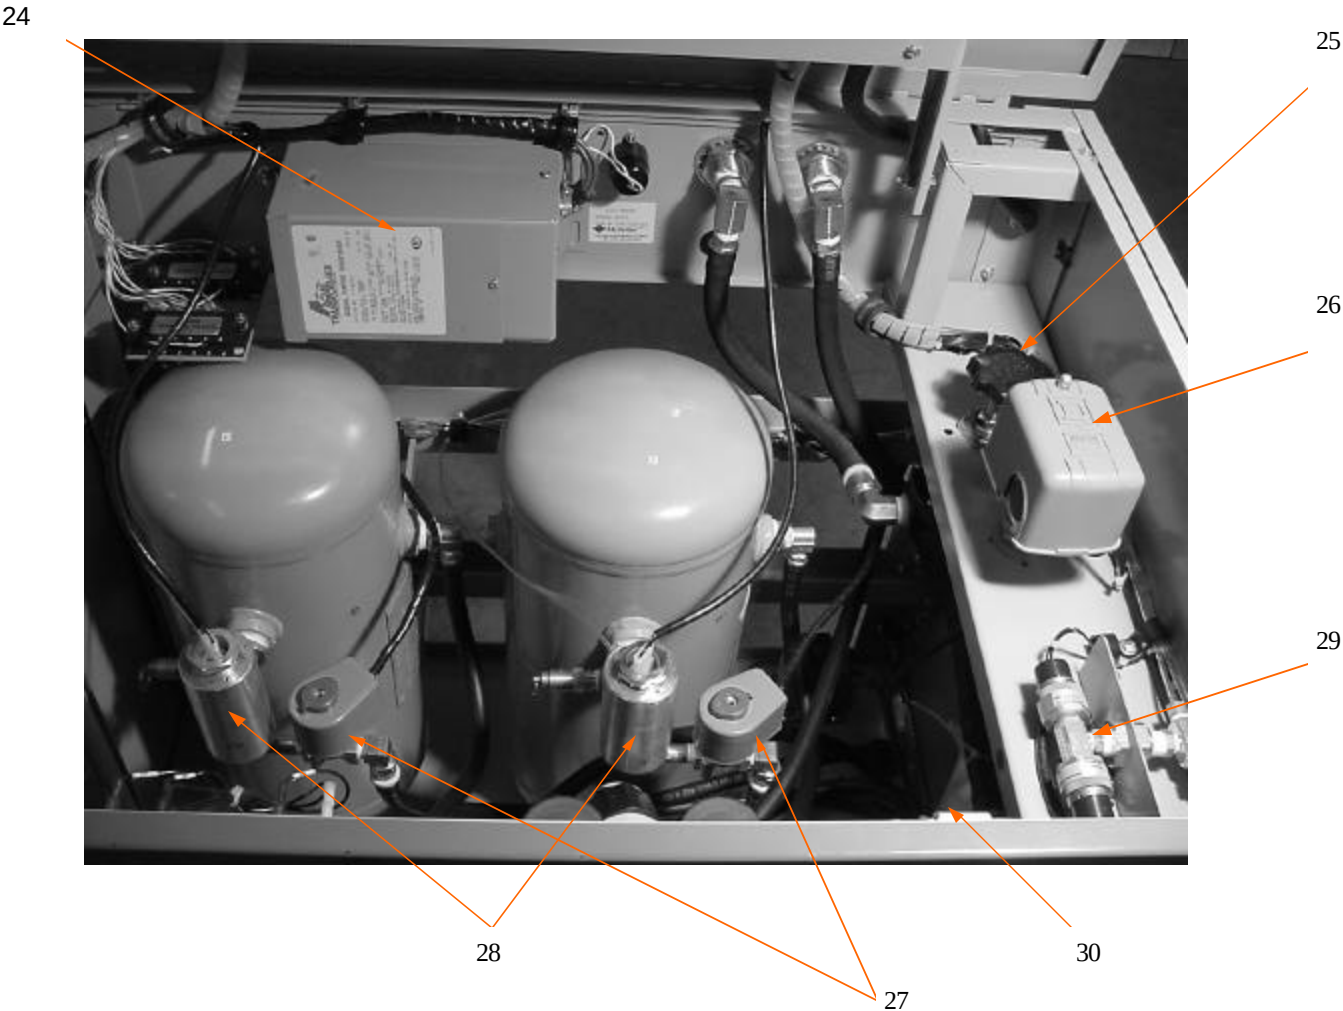

FIGURE 2-TOP VIEW
3.9.4 The humidity alarm circuit is shown in the wiring diagrams (figs. 2 & 3) and the operation of the alarm system(s) is as follows: